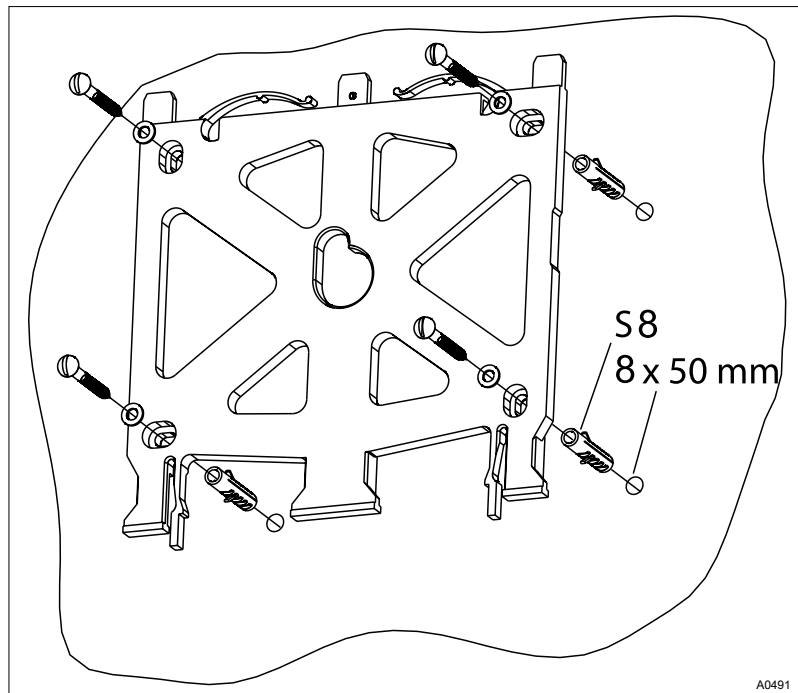

Fig. 4: Fitting the wall bracket
5. ➤ Screw the wall bracket into position using the washers, see Fig. 4